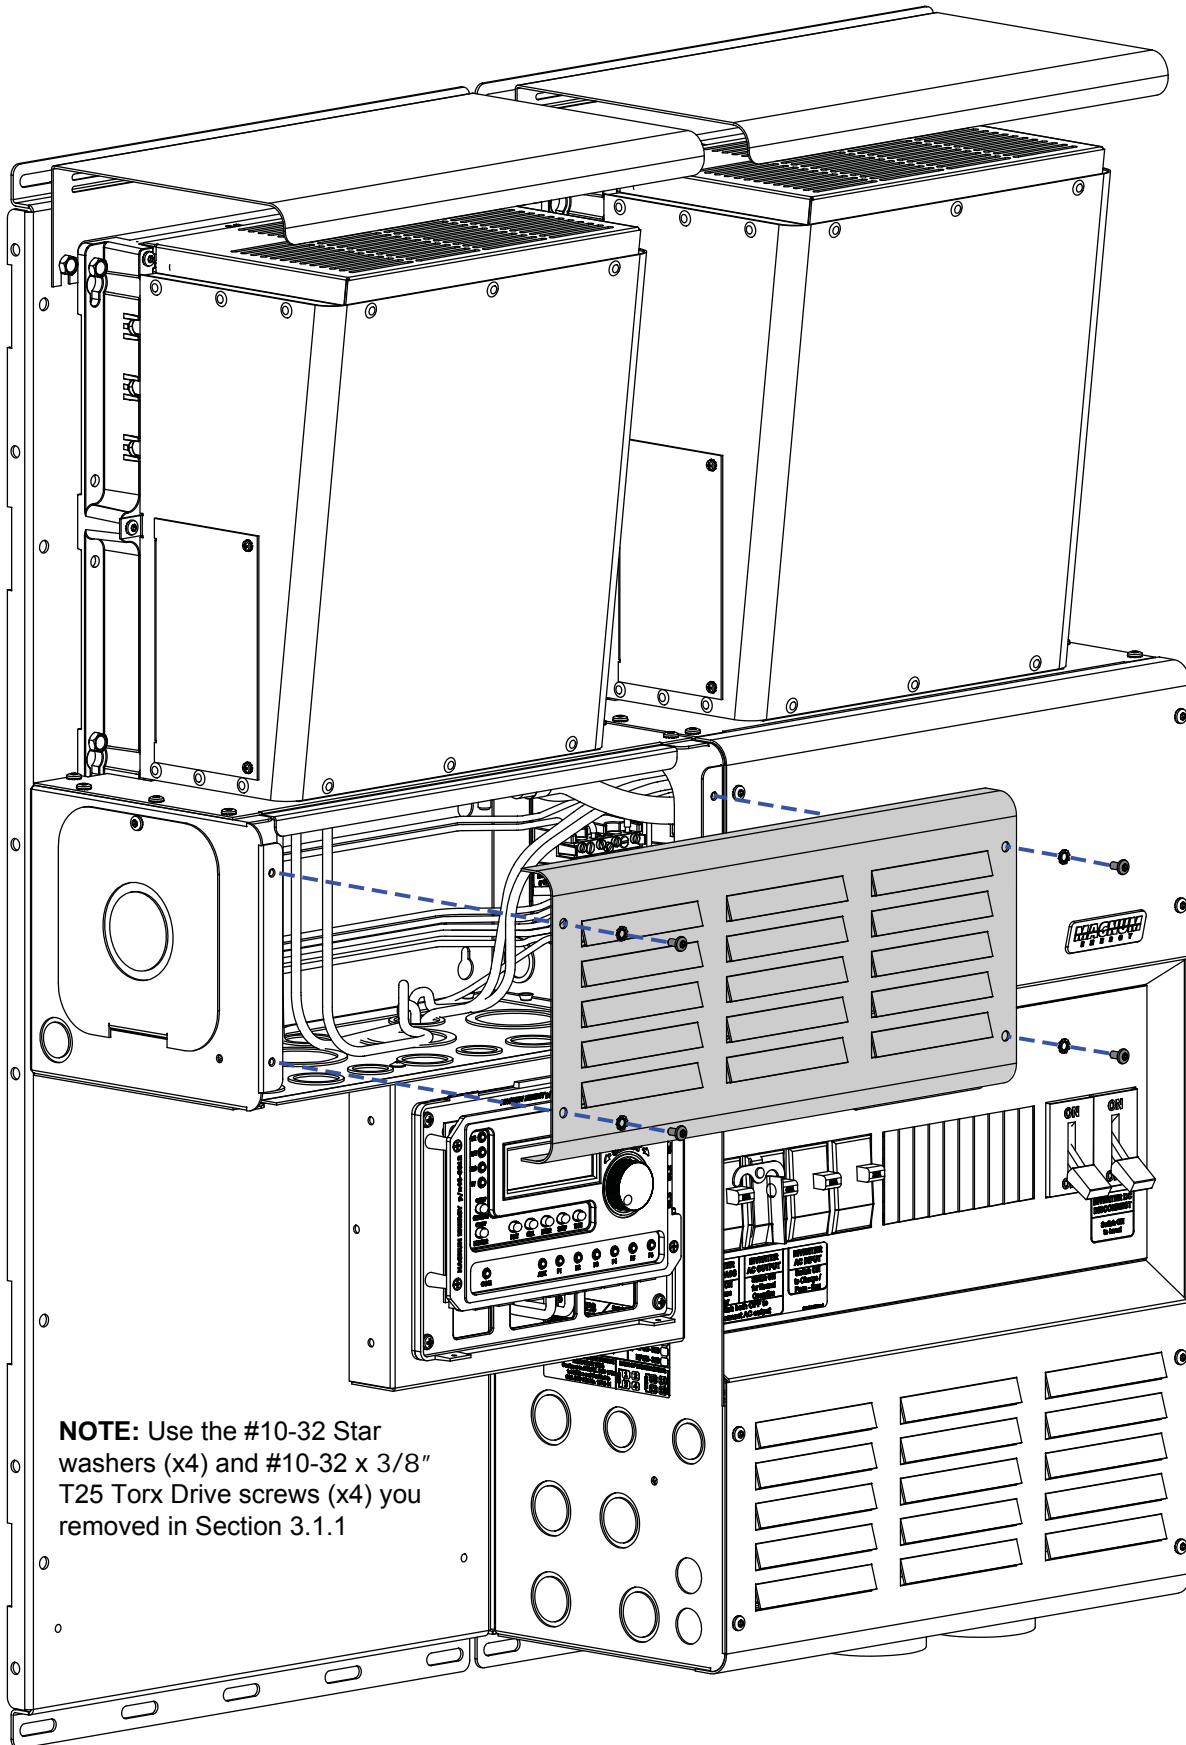

*Figure 3-24, Attaching the MP Enclosure Cover*
**MP Enclosure** - Use the supplied screws and washers to secure the MP enclosure's cover (see Figure 3-24).